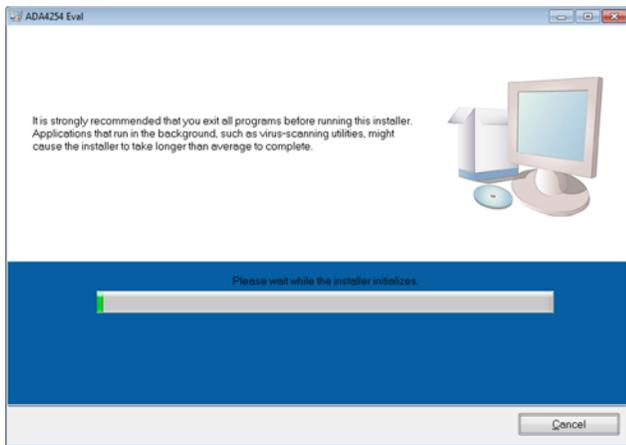

Figure 7. Software Installation Window
3. Begin installing the **ADA4254 Evaluation Software**. After installation, the window shown in Figure 7 opens.